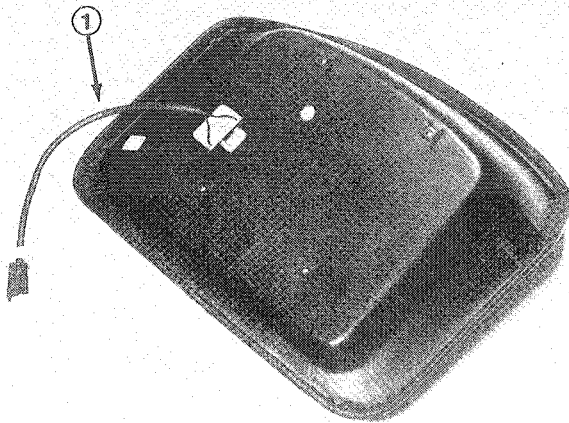

Figure 1
- Slide seat switch into opening in seat and clip in place (Fig. 1).